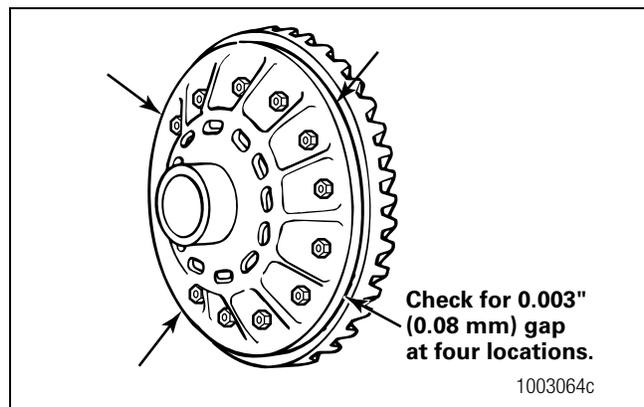

Figure 5.14
- After the bolts are installed, check for gaps between the back surface of the ring gear and the case flange. Use an 0.003-inch (0.08 mm) feeler gauge and check at four points around the assembly. Figure 5.14.